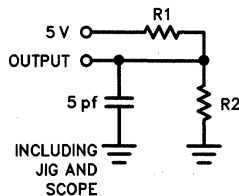

Figure 1b
4. Output Loading as in Figure 1b.